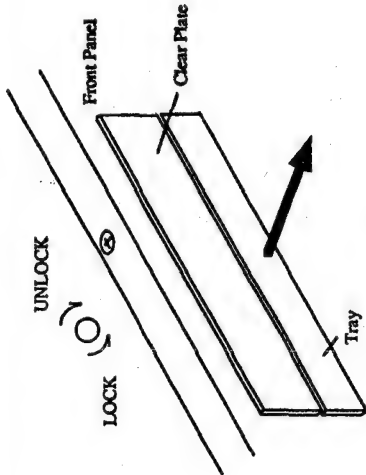

fig.1
- Turn the locked screw to the clockwise to release the lock of gear. (Refer fig.1)